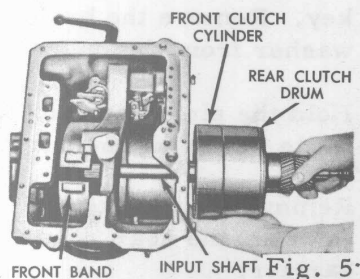

Fig. 5
- ⊗ Exert sufficient pressure on the end of the turbine shaft to hold the clutch units together. Remove the center support and the front and rear clutch assemblies as one unit (Fig. 5).